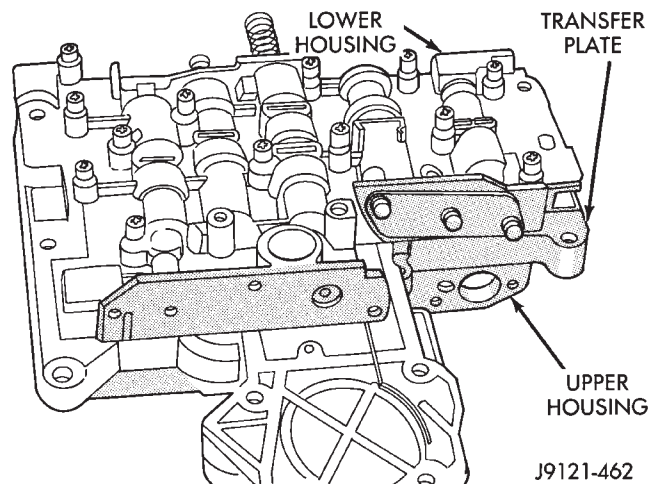

Fig. 120 Assembling Valve Body Upper And Lower Housings—46RH
- (4) Install lower housing on assembled transfer plate and upper housing (Fig. 120).
- (5) Install and start valve body screws by hand. Then tighten screws evenly to 4 N•m (35 in. lbs.) torque. Start at center and work out to sides when tightening screws.